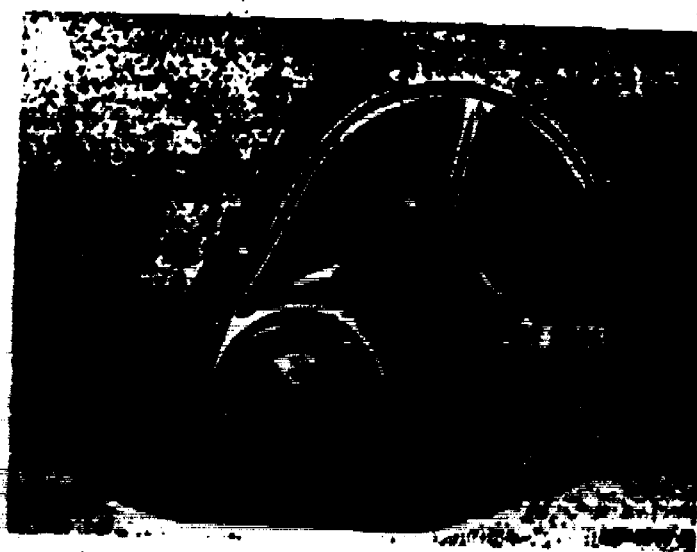

Fig. 103 - Installing Front Cover Oil Seal
16. Place front cover oil seal in engine oil until seal is completely saturated. Work oil seal into channel of front cover. Be careful not to damage seal. See Fig. 103.